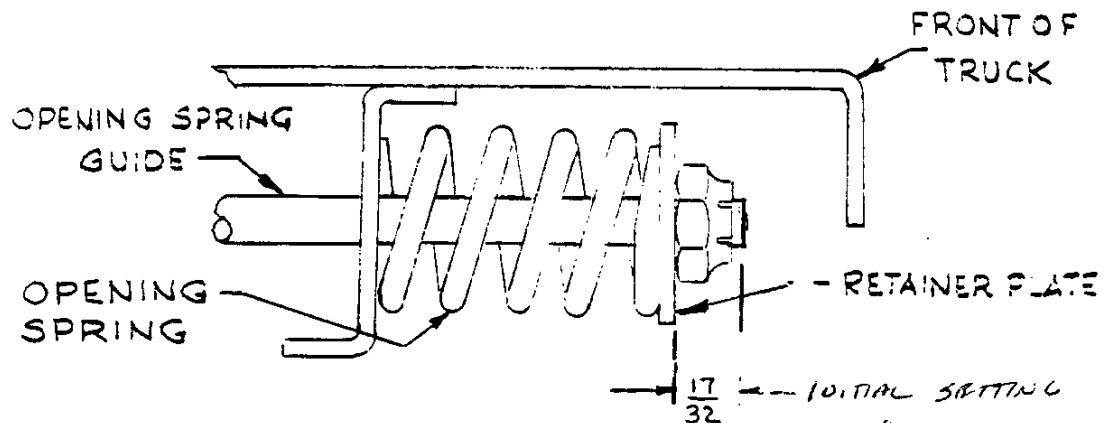

FIGURE F-2
8. Opening springs shall initially be adjusted to $\frac{17}{32}$ from the opening spring retainer plate to the end of the opening spring guide (see Figure F-2).